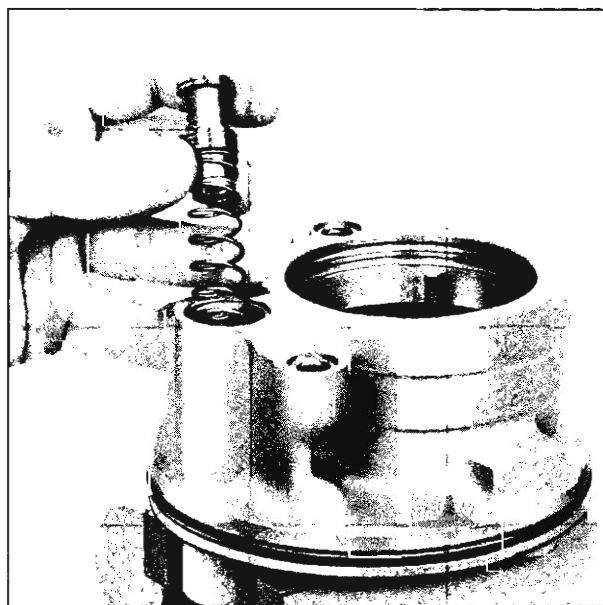

Fig. 76—Installing Flow Control Valve
12. Install flow control spring and flow control plunger. Be sure hex head screw goes into bore first (fig. 76). Install filter cage and new filter.